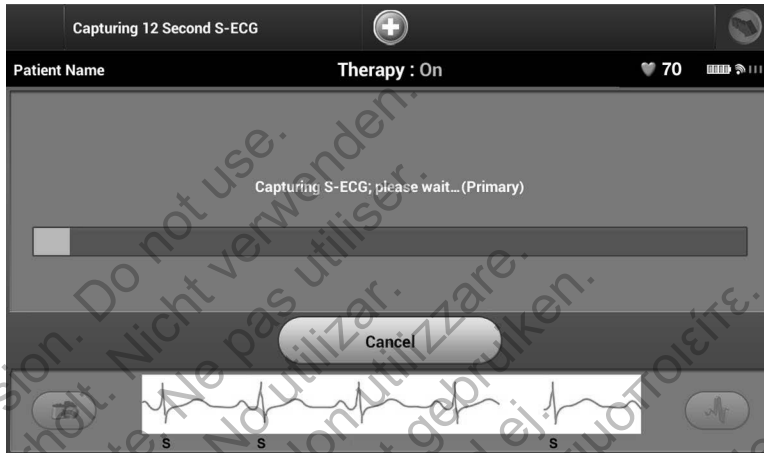

Figure 49: Capture all sense vectors
2. The Capturing 12 Second S-ECG screen will appear and display the status of the sense vector capture process (Figure 49).